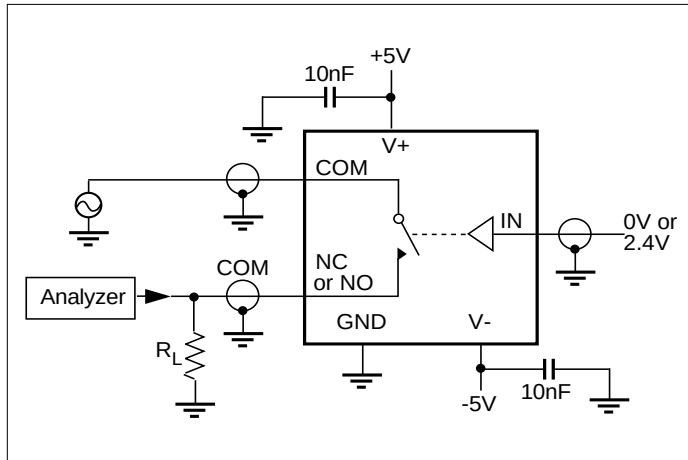

Figure 5. Off Isolation
- Off Isolation =  $20 \log_{10} [V_{COM} / (V_{NO} \text{ or } V_{NO})]$ . See figure 5.
7. Off Isolation =  $20 \log_{10} [ V_{COM} / (V_{NO} \text{ or } V_{NC}) ]$ . See figure 5.